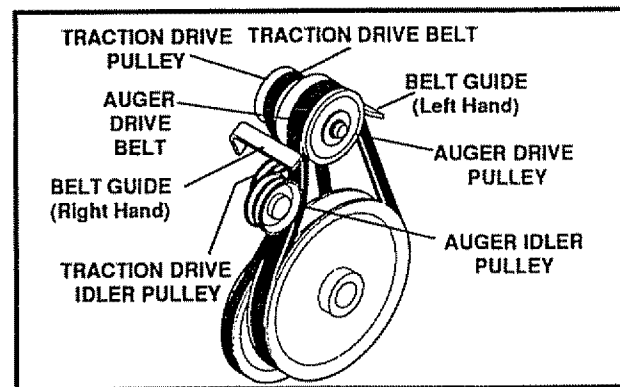

FIG. 28
- Loosen the belt guides (See Fig 28) and pull away from the engine drive pulley.
- Loosen the nut on the auger idler pulley (See Fig 28) and pull idler pulley away from the belt.
TRACTION DRIVE BELT (See Fig. 28)